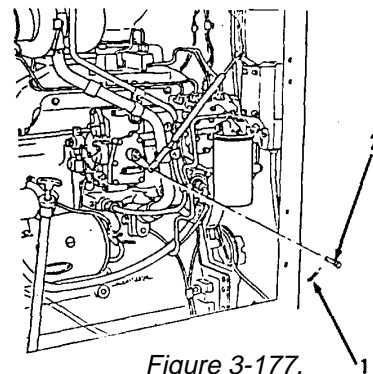

Figure 3-177.
2. Remove cotter pin (1) and pin (2, Figure 3-177) from fuel injection pump governor.